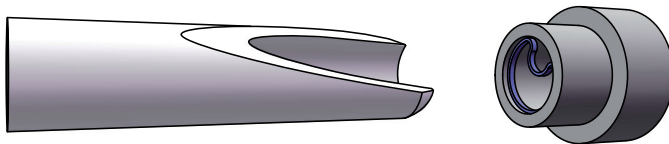

Figure 1
First the O-ring must be installed in the groove. Then the rod seal should be carefully formed into a kidney shape without sharp bends as shown in fig.1. This deformed ring is placed in the groove and reformed rounded with the aid of a pin.
**Fig. 1:** Another type of installation aid. It consists of a metal pin which has a female cone-shaped recess at one of its front-ends. The PTFE ring can be easily placed in the recess deforming it by hand (see fig. 2). Due to the reduced diameter the PTFE ring (still placed on the pin) can now be installed into the groove. After removal of the pin the PTFE ring can be pressed into the groove and reformed.